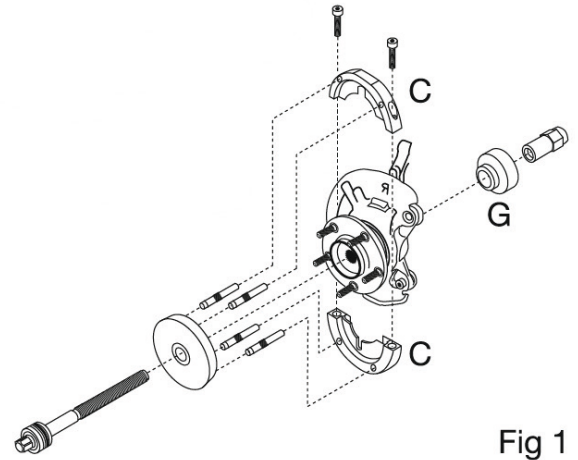
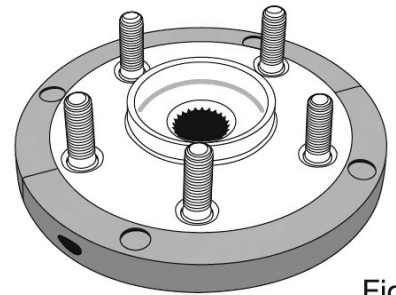
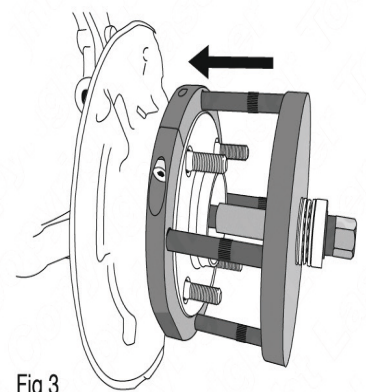

Fig 1
Fig 2
Fig 3
- Assemble the removal clamshells (C) to the bearing/flange; refer to diagram (Fig 1), secure with set screws (D) supplied.
- Assemble the four force pins (E) to the force plate (B).
- From behind, fit the extraction adaptor (G) over the end of the force screw. Collar-end in towards force screw - refer to Fig 1. Take care to line up cut outs with the ABS sensor.
- Secure the assembled tool with the force screw nut (F). Long threaded end of force screw nut in towards force screw - refer to Fig 1.
- To withdraw the bearing/flange, hold the force nut (F) steady with a 30mm spanner while turning the force screw with a 22mm socket on a breaker-bar or long ratchet handle. (Do not use air tools.)
- Refer to Fig 2: Assemble insertion clamshells (A) onto new bearing/flange and secure with set screws (D) supplied.
- Assemble the four force pins (E) to the force plate (B). The rubber O-ring on the force pin will secure it in the force plate socket.
- Refer to Fig 3: Offer up the force plate/pin assembly to the clamshells, and fit the main force screw through the force plate/pin assembly.
- From behind, fit the insertion adaptor (I) over the end of the force screw so that it sits on the outer edge at the rear of the hub carrier. Take care to line up cut outs with the ABS sensor.
- To push in the new bearing/flange, hold the force nut (F) steady with a 30mm spanner while turning the force screw with a 22mm socket on a breaker-bar or long ratchet handle. (Do not use air tools.)